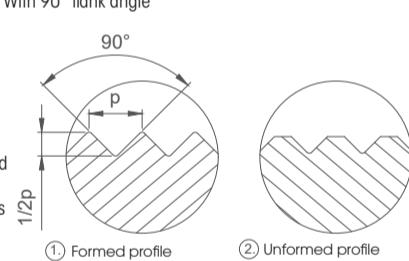

Fig. 7: Different profile pattern
The profile depth is set approx. 1mm behind the chamfer of the workpiece in the X direction and corresponds to approximately the half pitch p (with 90° flank angle), (cf. Fig. 7). After reaching the limit depth, the residence time of the tool should be 3 – 10 revolutions of the workpiece. Then move in the Z-direction until the desired knurl width is achieved.
The correct profile depth has been reached when the profile is knurled completely (Fig. 7, ref. 1). A new setting takes place when the profile is not completely formed (Fig. 7, ref. 2). Re-adjustment in the profile is possible, because the knurling wheels catch in the existing profile. For guideline values for feed rate and cutting speed, please refer to Table 5, chapter 9.